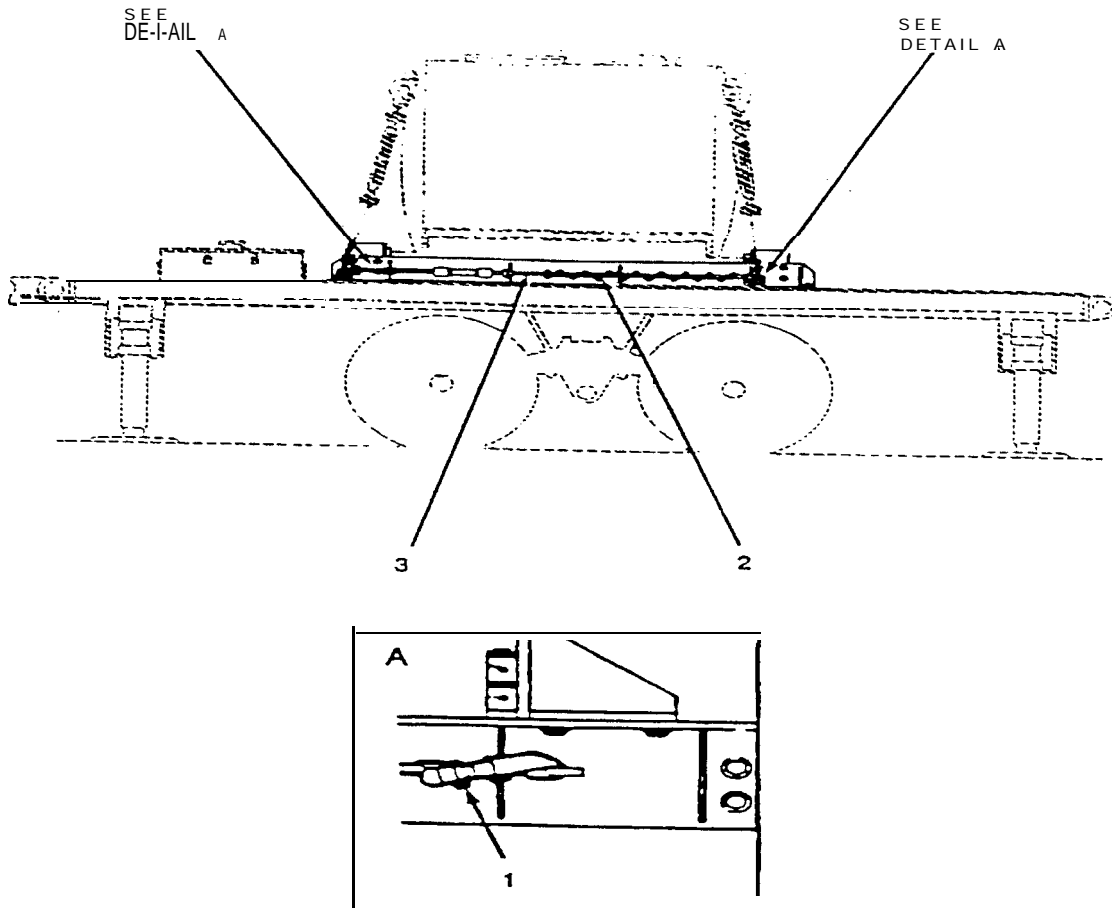
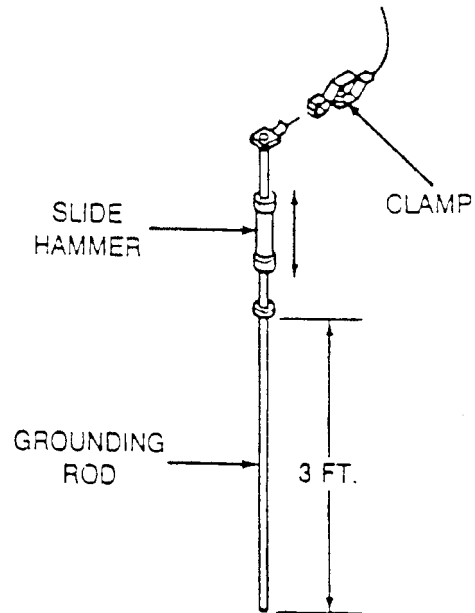

Figure 2-3 " Grounding Rod (Stowed) "
Figure 2-4 " Grounding Rod Installation "
a. Remove grounding rod (3. Figure 2-3) from tank unit mounting angle. Using slide hammer, drive grounding rod three feet into ground then attach clamp to dispensing unit to establish ground, Figure 2-4.
b. Once fueling operations are completed. disconnect grounding clamp from dispensing unit. Using slide hammer. withdraw grounding rod from ground then place it in storage position on mounting angle and secure with attaching straps. Detail A Figure 2-3.